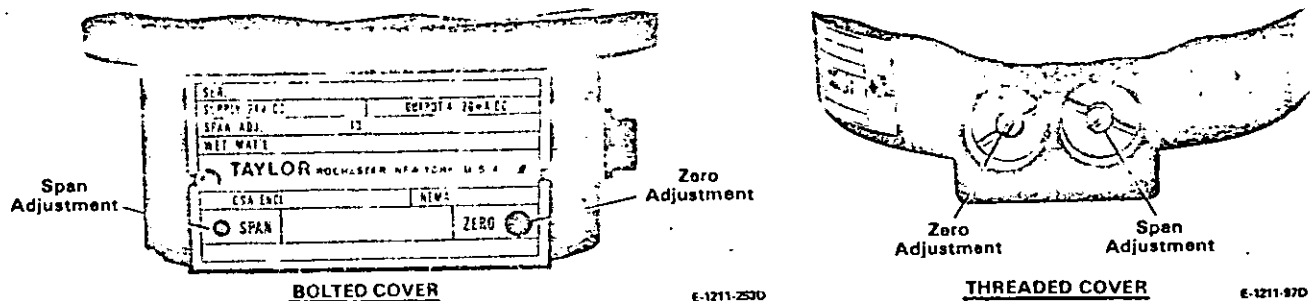

Figure 6. Span and Zero Adjustments
- Turn ZERO adjustment, Figure 6, until output is $0.25V\text{ dc} \pm 0.001$. Clockwise rotation increases output.
4. Turn ZERO adjustment, Figure 6, until output is 0.25V dc ± 0.001 . Clockwise rotation increases output. If output of 0.25V dc ± 0.001 is not possible, refer to 2.1.2 Zero Jumper; then repeat Steps 3 and 4.
- Turn **ZERO** adjustment, Figure 6, until output is 0.25V dc ± 0.001 . Clockwise rotation increases output. If output of 0.25V dc ± 0.001 is not possible, refer to 2.1.2 Zero Jumper; then repeat Steps 3 and 4.